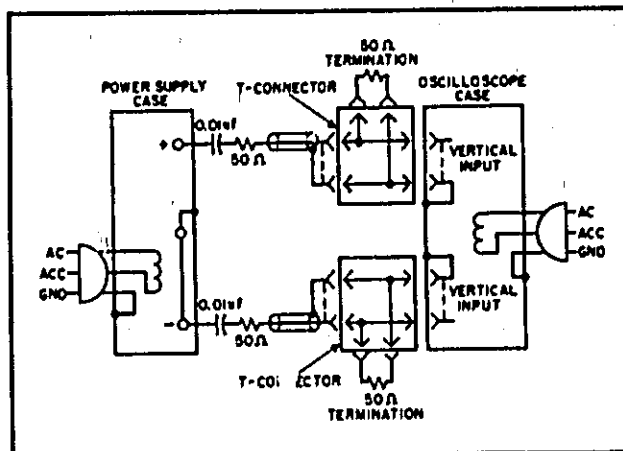

Figure 5-7. CV Noise Spike, Test Setup
- As shown in Figure 5-7, two coax cables, must be substituted for the shielded two-wire cable.
5-33 The circuit of Figure 5-7 can also be used for the normal measurement of low frequency ripple and noise; simply remove the four terminating re-
sistors and the blocking capacitors and substitute a higher gain vertical plug-in in place of the wide-band plug-in required for spike measurements. Notice that with these changes, Figure 5-7 becomes a two-cable version of Figure 5-6C.